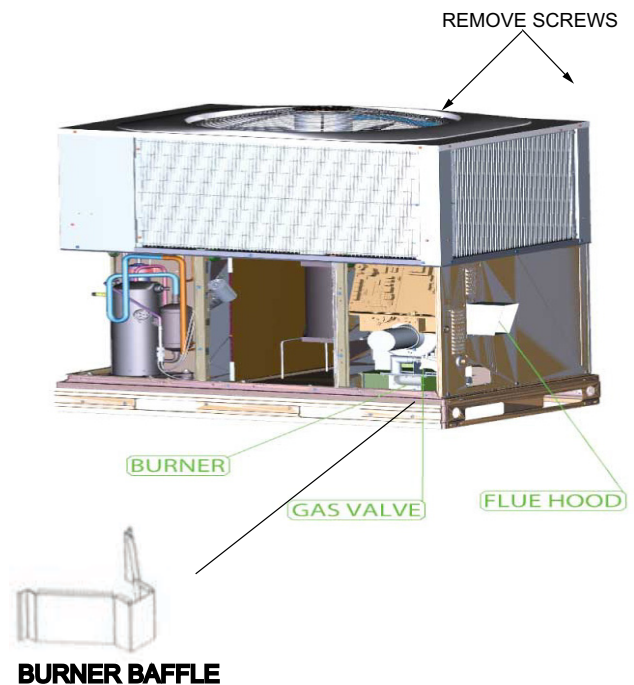

Fig. 24 – Blower Housing, Flue Collector Box and Burner Heat Exchanger Assembly (Ultra Low NOx)
- Remove the 11 screws holding the flue collector box cover (See Fig. 24) to the heat exchanger assembly. Inspect the heat exchangers.
Unit is equipped with a direct spark ignition 100 percent lockout system. Ignition module (IGC) is located in the control box (See Fig. 24). Module contains a self-diagnostic LED. During servicing, refer to label diagram or Table 7 in these instructions for LED interpretation.
Ultra Low NOx Burner Baffle Inspection/Cleaning (See Fig. 24.)